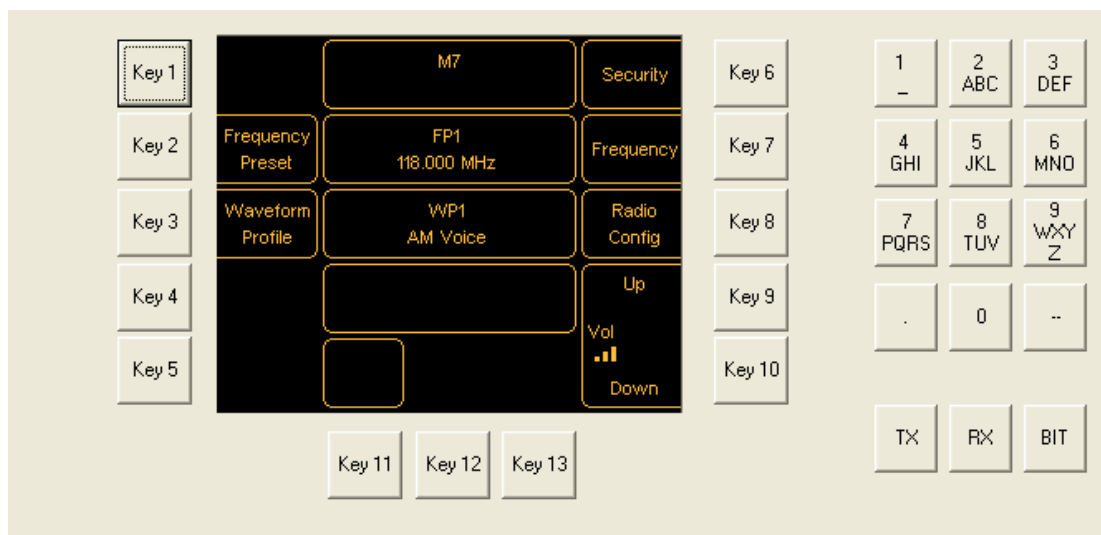
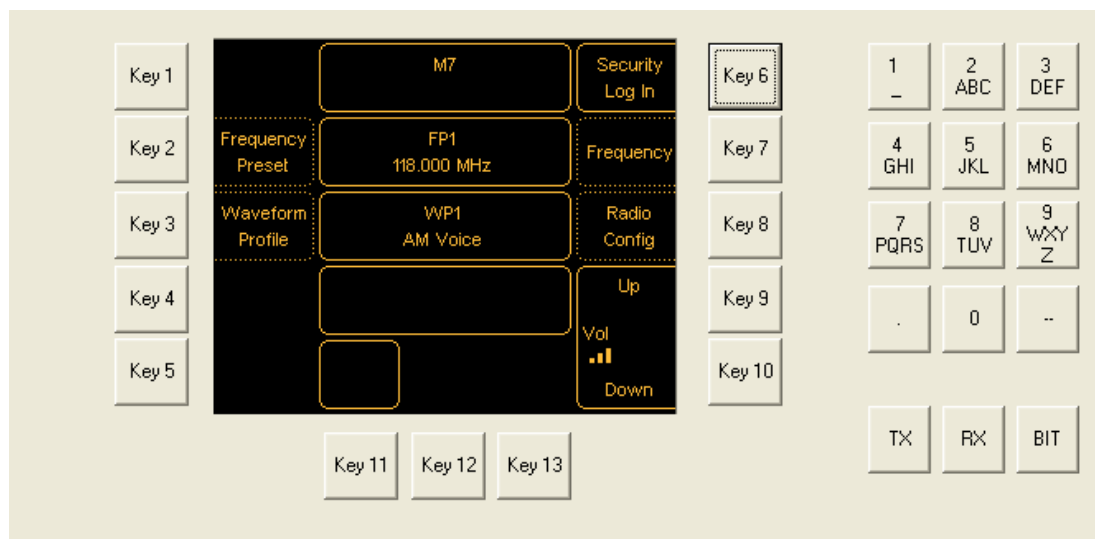

Fig 3-10 Home Screen – No Security Applied
Fig 3-11 Home Screen – With Security Applied
Fig 3-10 and Fig 3-11 show the Home screen with and without security applied. Note that in Fig 3-11, the Security label (Key 6) shows Security Log In; additionally the Frequency Preset, Waveform Profile, Frequency and Radio Config labels have dotted surrounds. If security is applied you must have knowledge of a 4-digit PIN before you can proceed to make changes to the radio. Refer to your Administrator.
- (3) Using the keypad, key in the 4-digit PIN; then press **Key 13 – Enter**. If an incorrect PIN is entered, you are returned to the Home screen as shown in Fig 3-11.